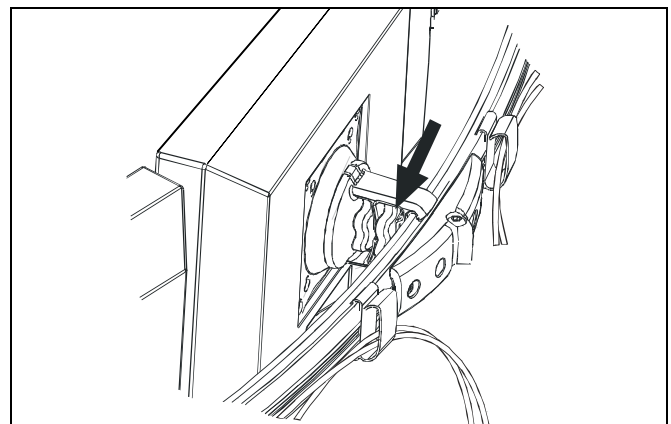

Figure 12: Display Horizontal Adjustment
1. Loosen Centris bracket rear adjustment knob. (See Figure 12)